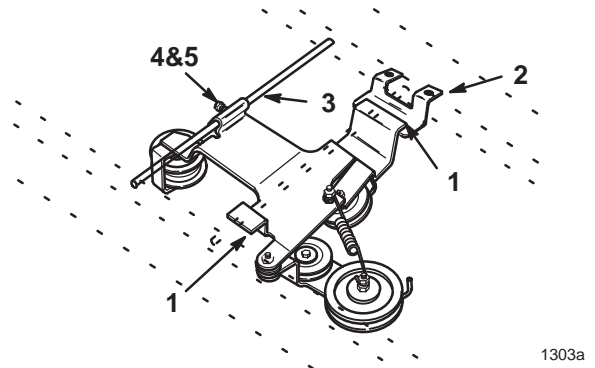

Figure 18
8. Position idler pulley assembly front tabs above brackets and hook onto tractor lift shaft at rear (Fig. 18).
9. Secure with 1/4 x 3/4 in. bolt and 1/4 in. jam nut at rear hook (Fig. 18).